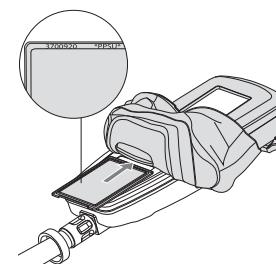

Fig. 52 Fitting the LCD protective cover
9. Fit the protective cover over the LCD screen (Fig. 52).
Ensure that the cover is orientated as shown, with the notch towards the bottom of the screen and the part number facing upwards (Fig. 52).